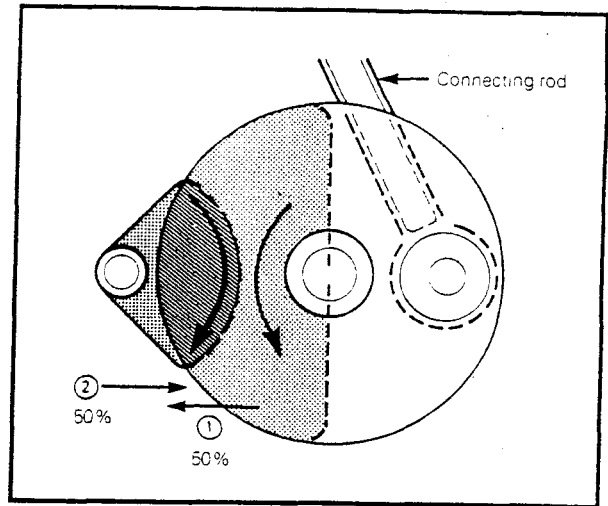

Figure 2-8. Inertia Force Configuration At 1/2 Stroke
10. See Figure 2-8. Inertia force value at counterweight and balancer is 0% because when the centrifugal force on the counterweight is 50%, the centrifugal force on the balancer is 50% in the opposite direction. This cancels the inertia force.